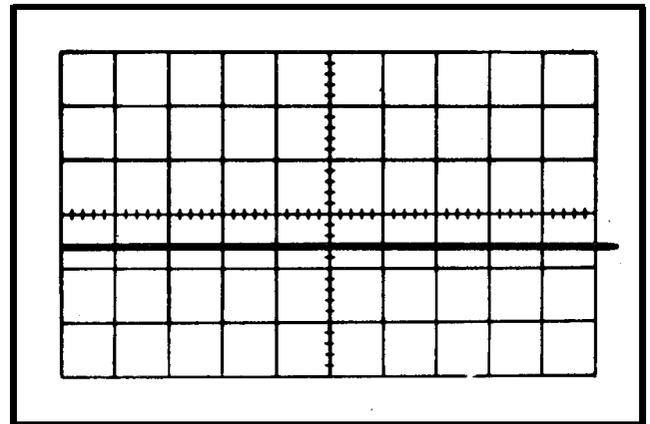

Fig. 6-27. Typical CRT display when checking attenuator isolation ratio.
e. CHECK-CRT display for 0.1-division deflection, or less (attenuator isolation ratio 10,000:1 or better, see Fig. 6-27).
j. CHECK-CRT display for 0.1-division deflection or less (attenuator isolation 10,000:1 or better; see Fig. 6-27).